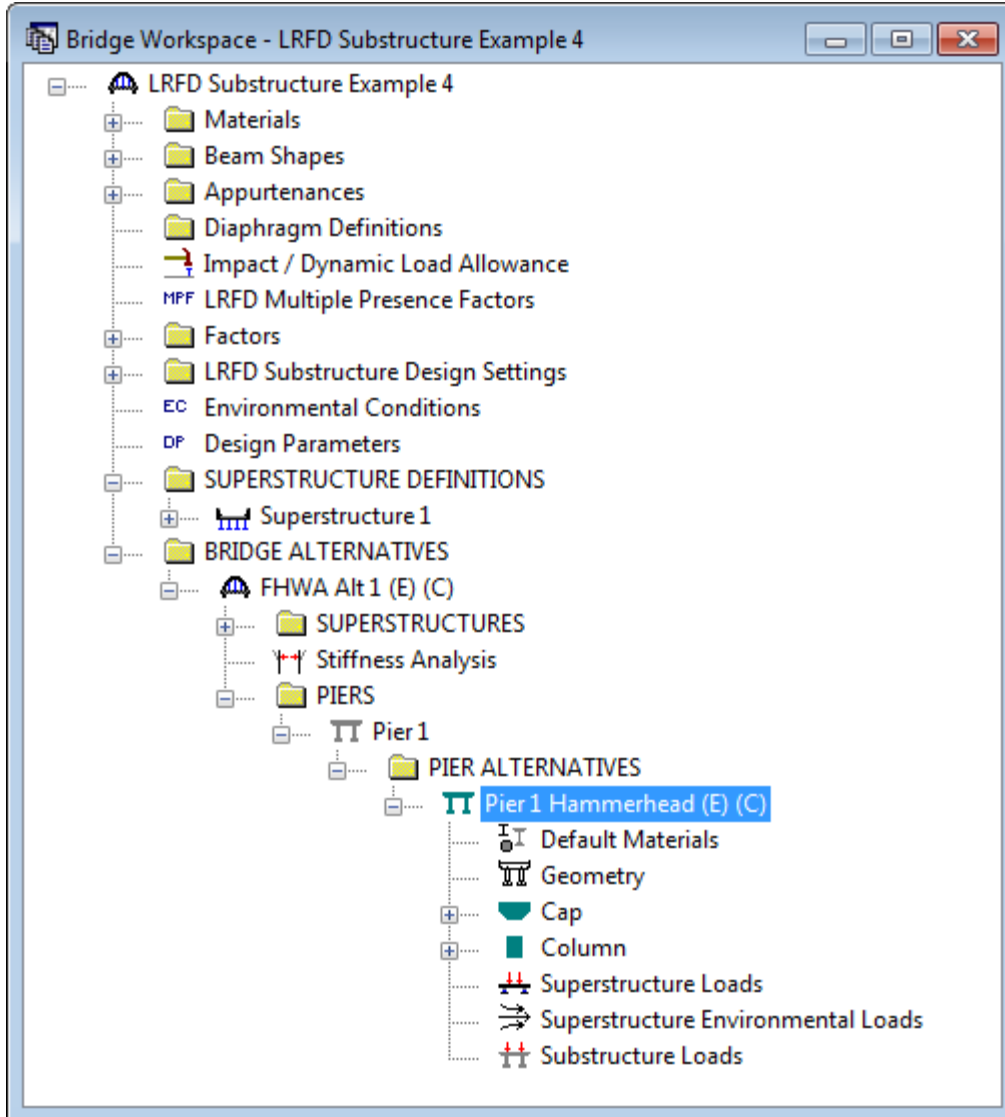

Fig 2. Pier Alternative in Bridge Tree
Once Bridge Workspace tree shows up expand “PIERS” at the end of tree by clicking on “+”. Then expand “pier 1” and select Pier 1 Hammerhead (E) (C) in the pier alternative. Expand pier alternative (Pier 1 Hammerhead) by clicking on “+”. Then Bridge Workspace tree will be as shown in Fig 2.